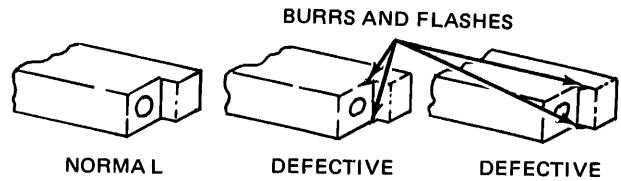

Figure 4-7. Brush Holder
- e. Prior to installing new brush head ensure that brush holder has no flashes or burrs where shoulder of brush head fits into brush holder (see Figure 4-7).